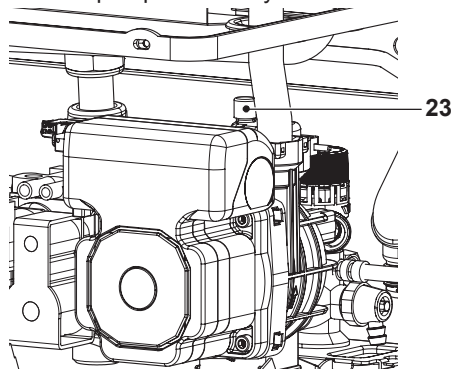

Fig. 7.2
- Loosen the cap on the automatic air purger valve 23 in Fig. 7.2 one full turn and leave open permanently.